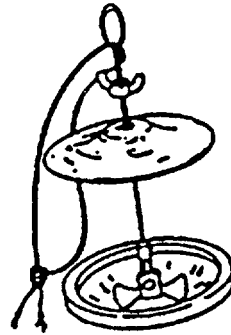

Figure 2-78. Repair Kit, Inflatable
- bd. Repair Kit, Inflatable Life Raft. Insert one of the clam shells inside the damaged bladder, slide the other clam shell over the outside, sandwiching the life raft fabric between the two clam shells (See Figure 2-78) and tighten the thumb screw down snugly. Inflate the damaged cell.